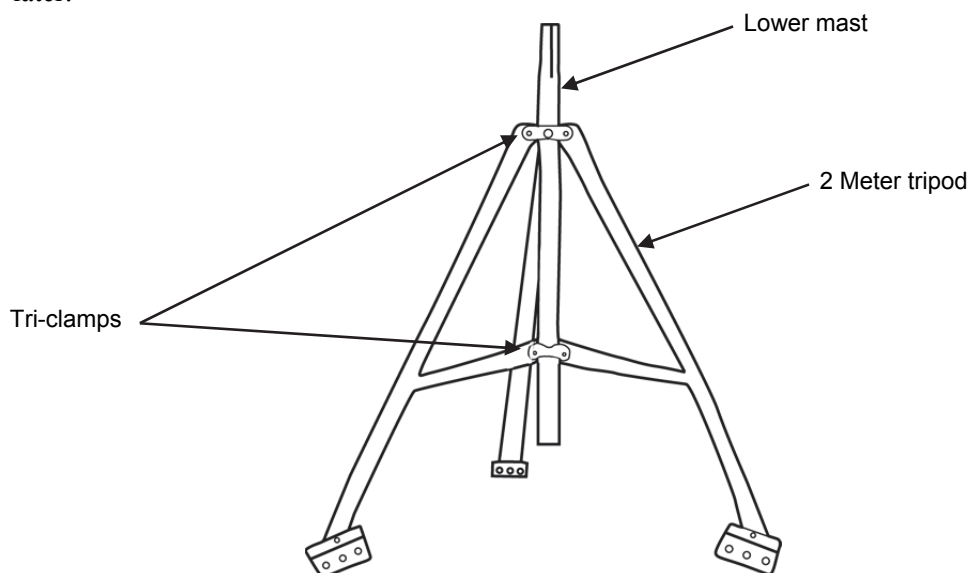

Figure 18: Two meter tripod and lower mast
6. Slide the lower mast from the top into the tri-clamps with the creased end of the mast facing up (see Figure 18). The creases on the lower mast should face north and south.